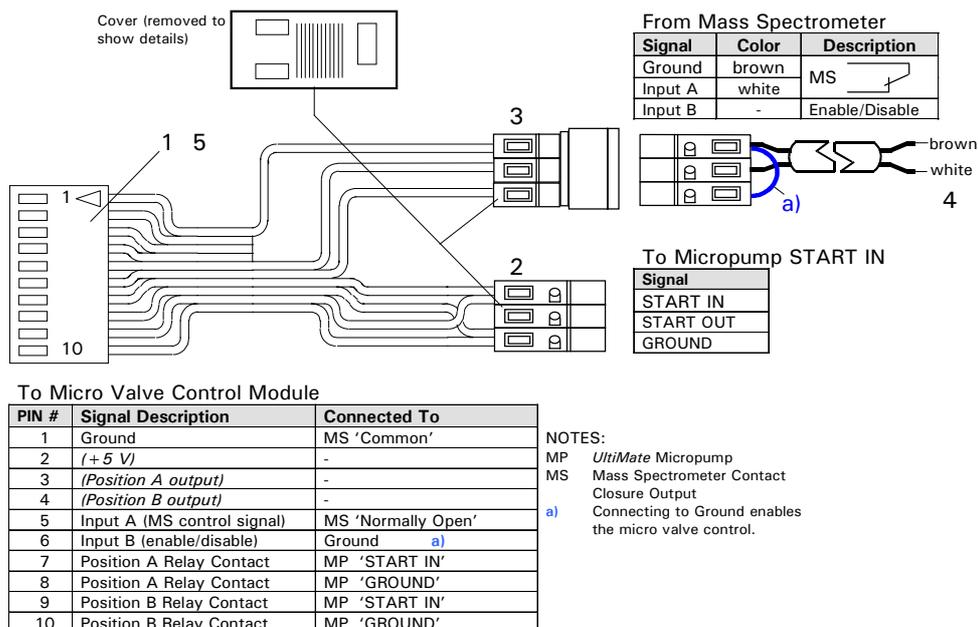

FIGURE 2-3 The Peak Parking Cable
- a) Connect the 3-pin female connector of the peak parking cable to the START terminal of the *UltiMate* Micropump (item 2, FIGURE 2-3).
- b) Connect the 2 wires of the peak parking cable to the contact closure output of your MS (item 4, FIGURE 2-3).